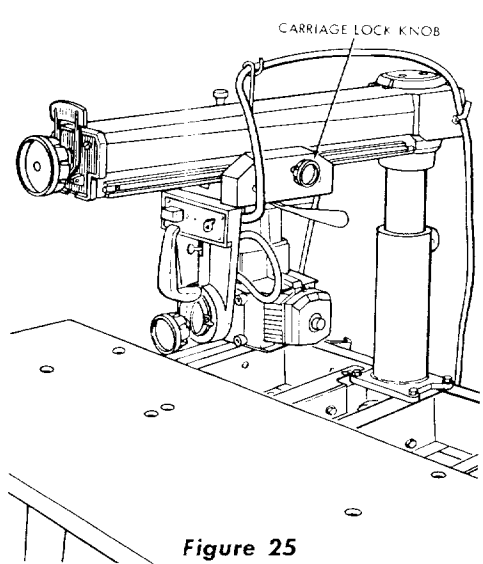

Figure 25
- a. Loosen the carriage lock knob, move the motor to approximately center of table and tighten the carriage lock knob. (See figure 25.)